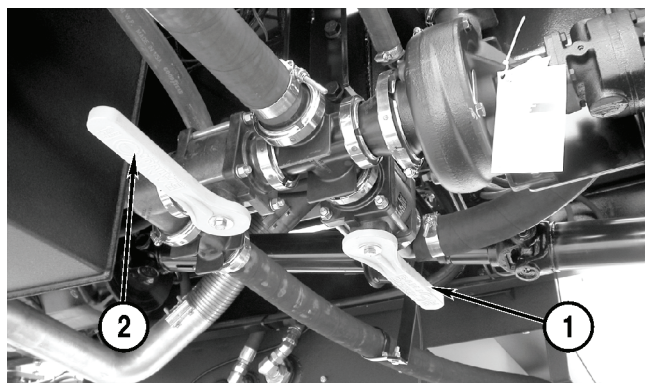

Figure 4-39
1. Open the product valve (**Figure 4-39, 1**).
4. Close the rinse tank valve (**Figure 4-39, 2**).